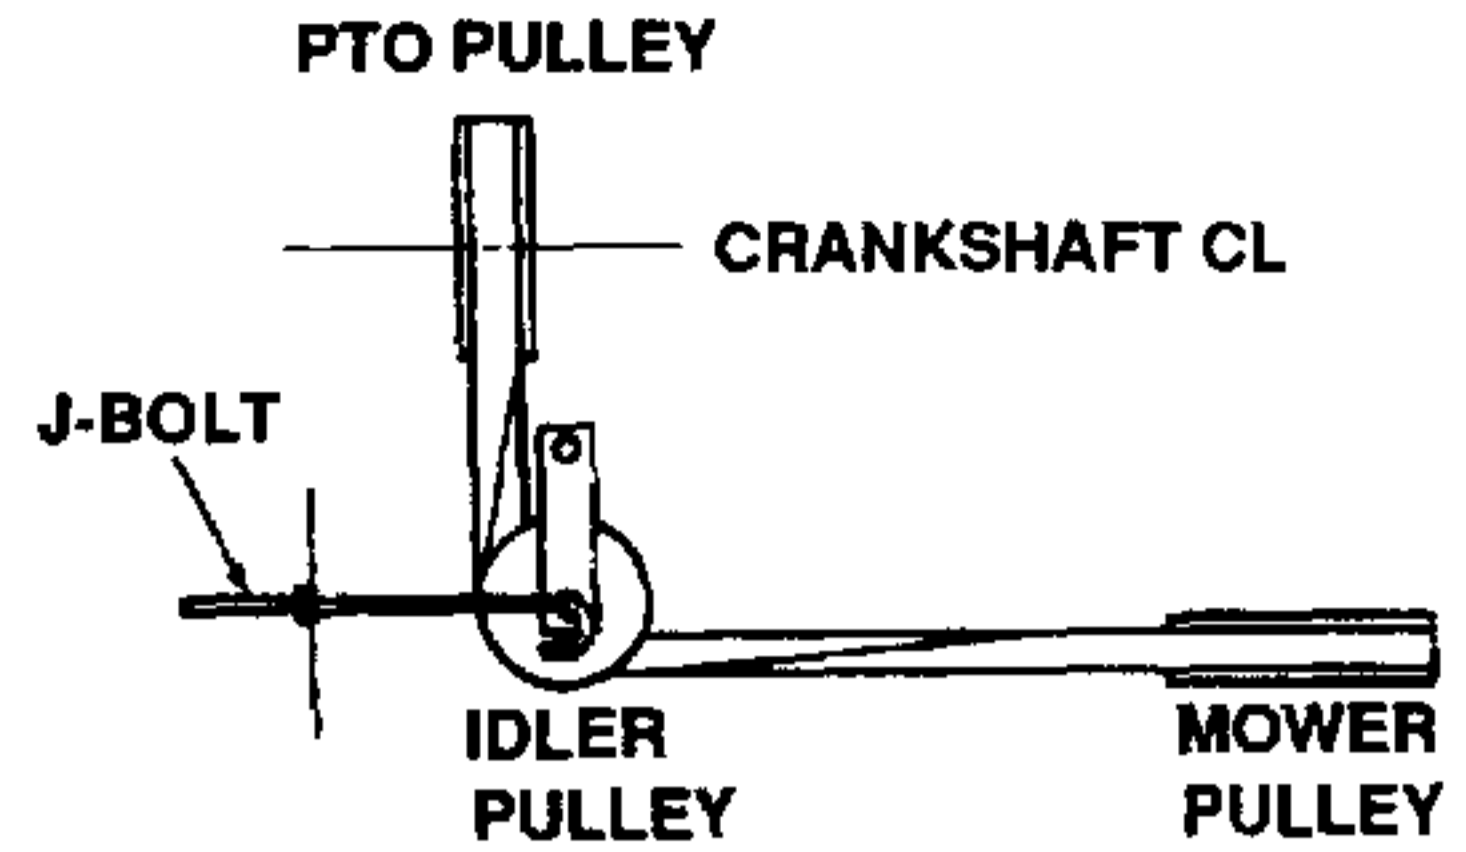
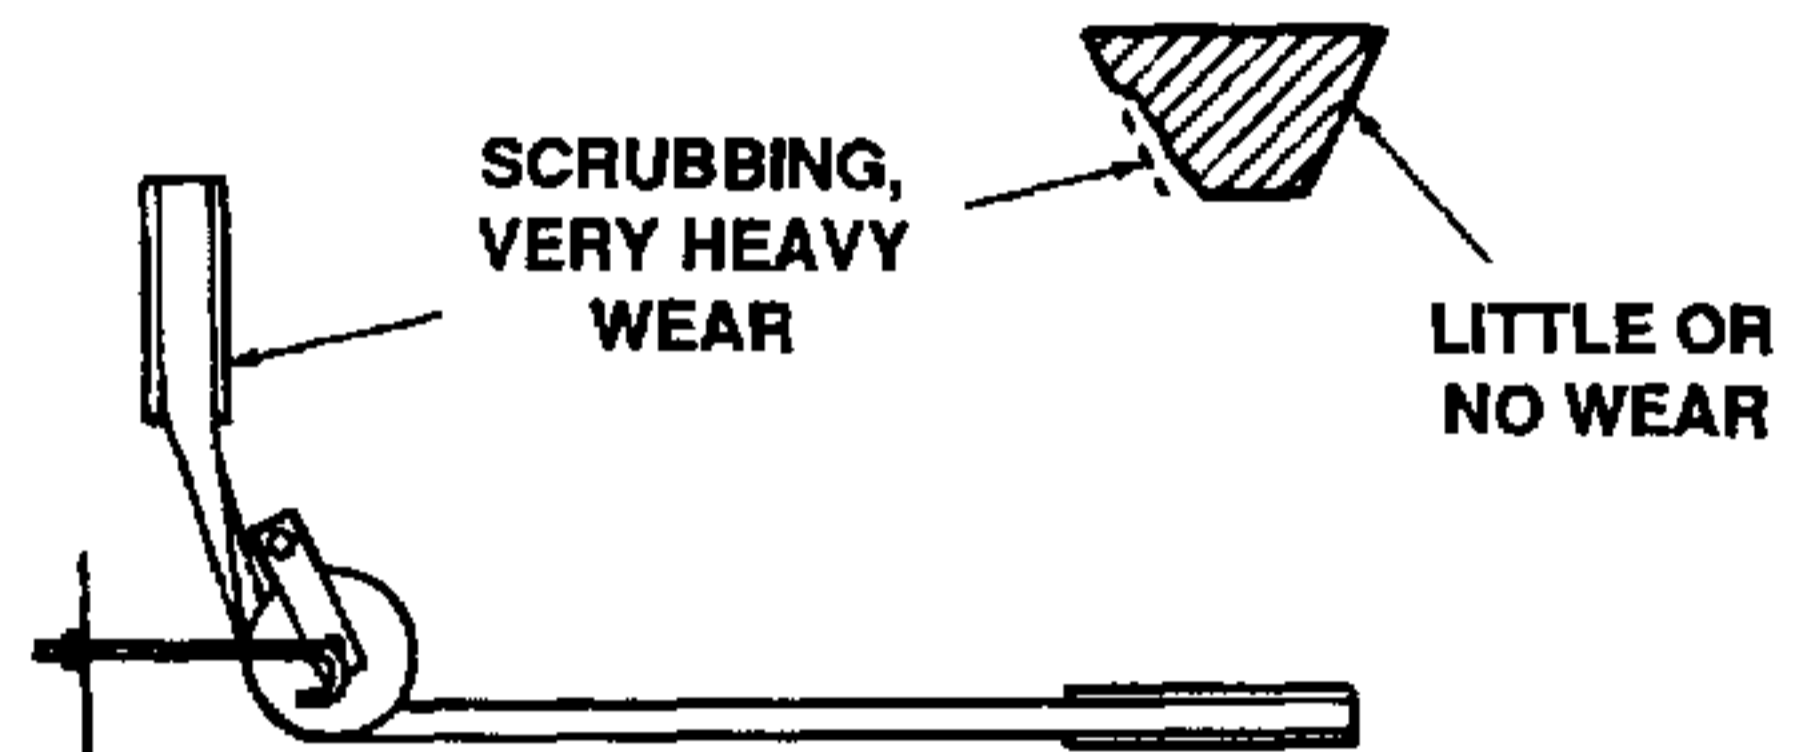

Figure I-2. Properly Aligned Drive Belt.
Figure I-3. Improperly Aligned Drive Belt.
5. Heavy wear on only one side of the PTO belt indicates misaligned pulleys. Figure I-2 shows the proper alignment of the drive belt on a garden tractor. If the idler pulley connected to the J-bolt tension rod is out of alignment, one side of the drive belt will scrub heavily against the PTO pulley. Refer to Figure I-3. With this idler adjusted properly, the idler ratchet will be close to its proper adjustment.